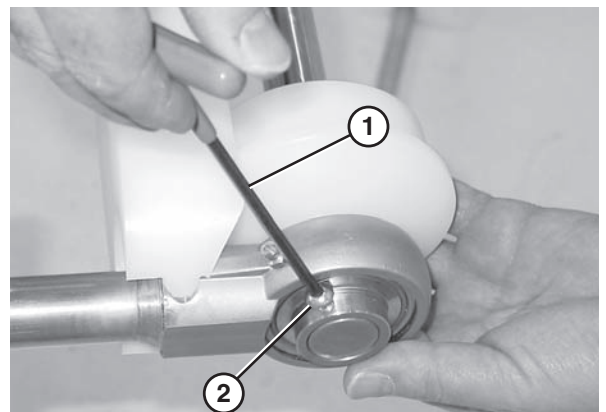

Figure 90
5. Use a hex wrench (Figure 90, item 1) to tighten the bearing shaft fasteners (Figure 90, item 2) to 6 N•m. Check after 24 hours of conveyor use.